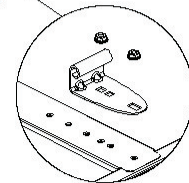

Figure 3
Roller carriers have numbers stamped on them for identification and their placement on the door is important (Figure 3). All roller carriers are attached to the end stiles with (2) 1/4"x5/8" universal screws, using holes (2 and 6). Insert rollers as shown.
Locate the center hinge(s), rotate and insert the hinge(s) into the hinge pocket(s) as illustrated (Figure 3). All center hinges are attached using (2) 1/4"x5/8" universal screws using holes (B and C).
Drill two (2) 1/4" holes straight through section using prepunched holes (U and W) as a template on the bottom end of the center stile. Install step plate / lift handle using (2) 1/4"-20 x 2-1/2" carriage bolts (head should be on the outside) and nuts (Figure 3).
Install #2 roller carriers as described in (Figure 3, Step 2e). Install center hinge(s) as described in (Figure 3, Step 2f). Go to Step 5.
Place the third section face down on saw horses. Install #3 roller carrier as described in (Figure 3, Step 2c). Install center hinge(s) as described in (Figure 3, Step 2f).